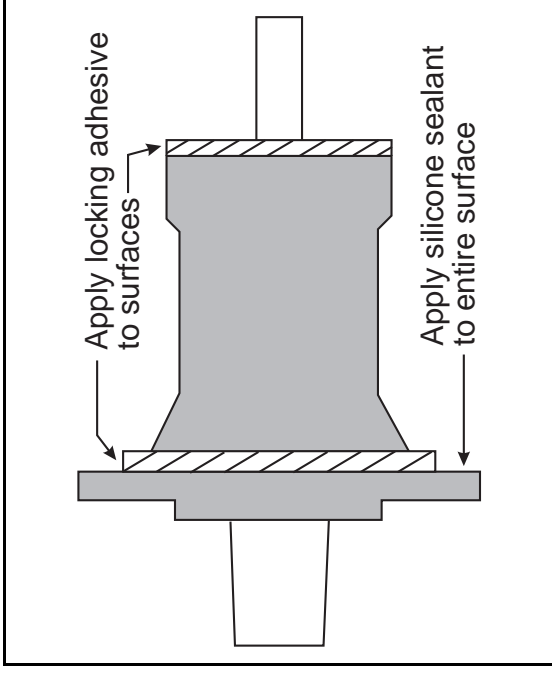

FIGURE 3 (MSSM0230AE)
3. Apply Loctite 271 locking adhesive (or equivalent) and Loctite silicone sealant (or equivalent) to bearing housing surfaces as shown in FIGURE 3.